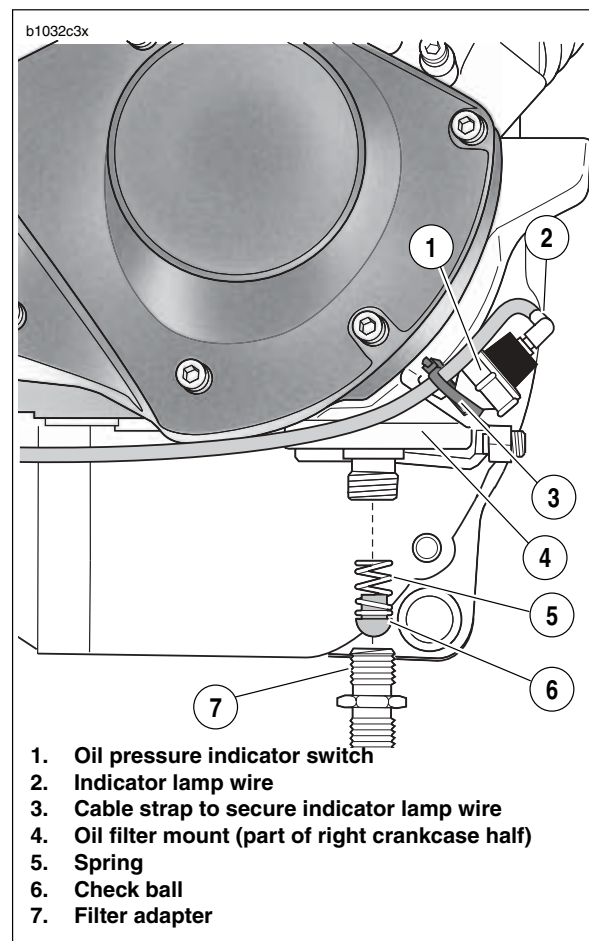

Figure 3-122. Oil Filter Mount Assembly
See Figure 3-122. Oil is pressure-fed from the oil pump to the oil cooler via an external steel line. From the oil cooler, oil flows to the oil filter mount. Oil travels through the filter mount into the filter through the outer filter holes.
3. See Figure 3-122. Remove filter adapter (6) from filter mount (3). Remove check ball (5) and spring (4).